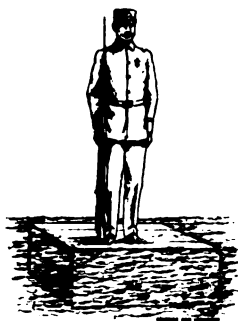

FIG. 1.
(389) What must be the capacity of a tank made of ½-inch plates to support a person weighing 150 pounds in water, as shown by enclosed sketch (Fig. 1)?